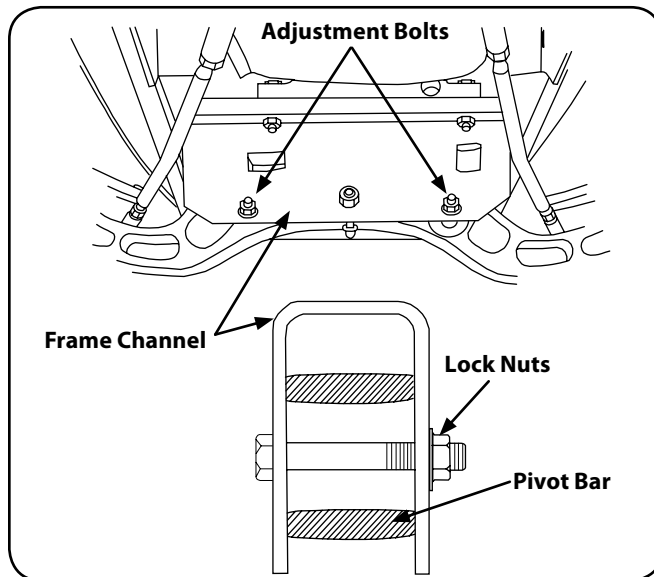

Figure 6-10
2. Move the ends of the pivot bar up and down to check for binding. If binding is present, loosen the lock nuts until binding is eliminated. See Figure 6-10.